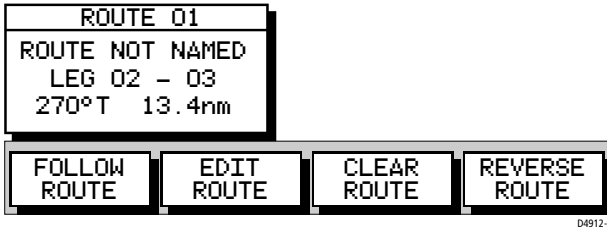

Figure 3-34: Route Leg Data Box and Soft Keys
- To display information about a route leg, move the cursor over the leg until the letters RTE appear. The Route Leg data box is displayed, together with the Follow Route soft keys as shown in *Figure 3-34*.
1. Place the cursor over a route leg until the text RTE is displayed. The Route soft keys are displayed as shown in *Figure 3-34*.
1. Move the cursor over the route leg into which a waypoint is to be inserted; the letters RTE appear and the Route Leg Data Box and Route soft keys are displayed, see *Figure 3-34*.